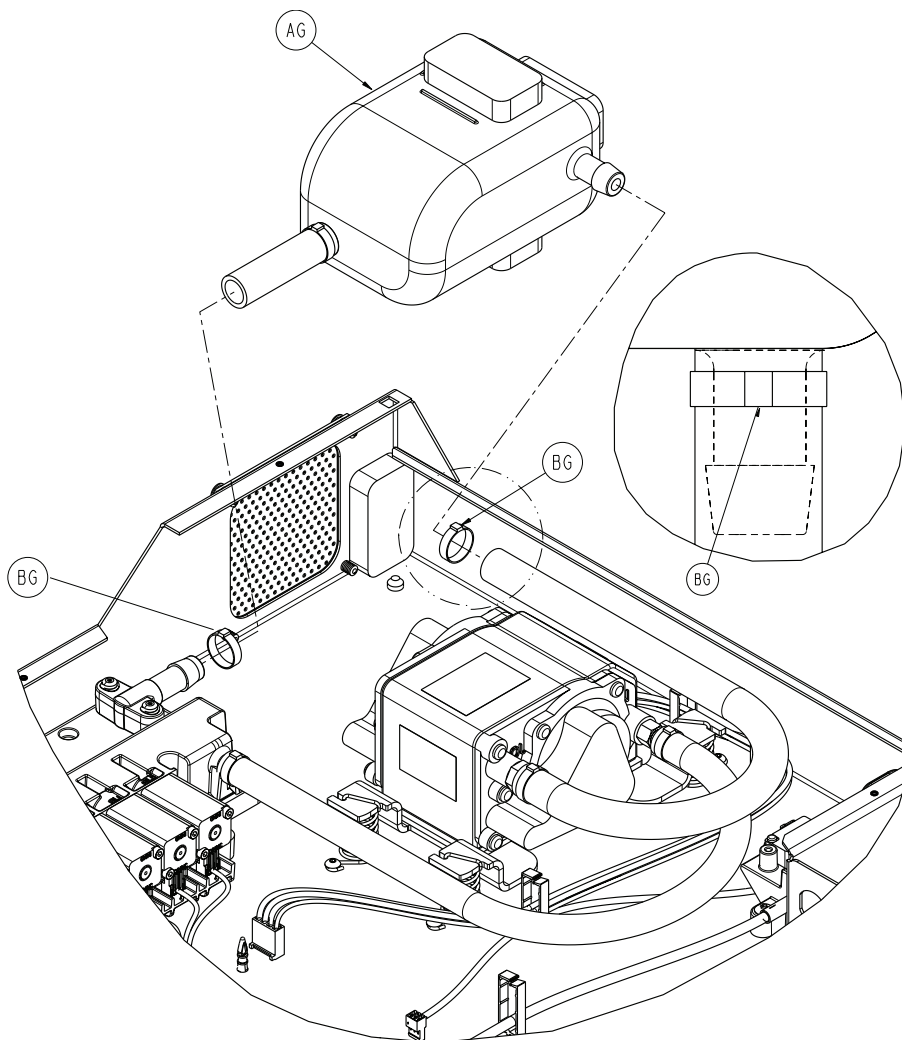

Figure 24 – Resonator
2. Using diagonal pliers, cut the cable ties (BG) from the inlet and outlet hoses of the resonator (Figure 24). Discard the cable ties.
3. Pull to disconnect each of the hoses from the resonator (AG) and the manifold (Figure 24).